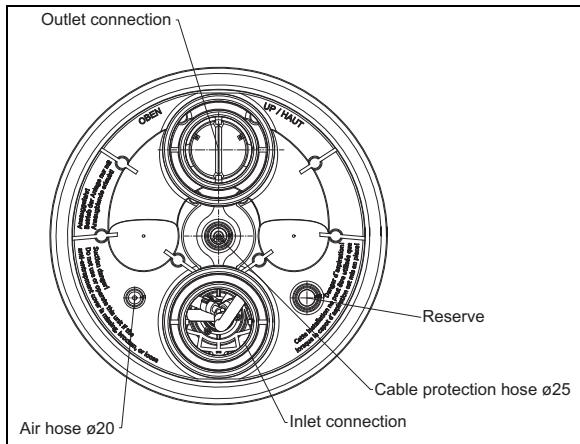

Fig. 9
1. Bonding in of the cable protective conduit and of the outer air hose (*Fig. 9*).